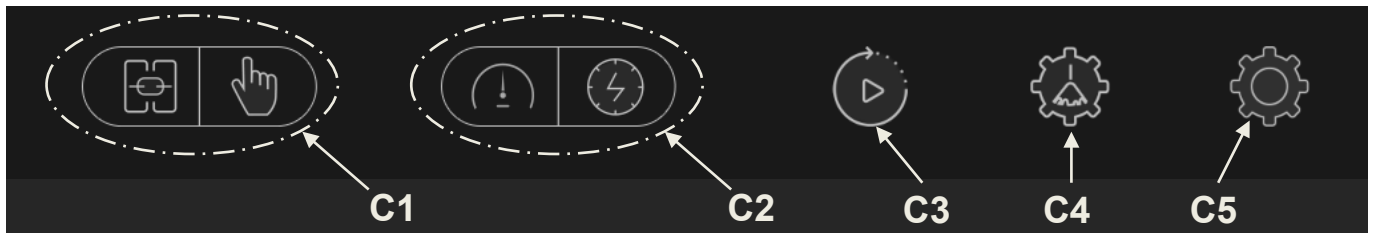

Fig. 12-3
5.1.3 Parameter Setup Area C (Fig. 12-3)